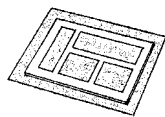

Figure 2
- Put the face frame (A) face down on a flat soft working surface (Figure 2).